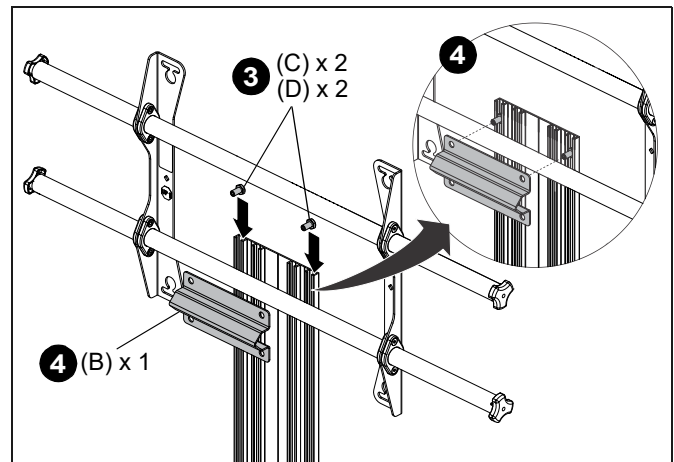

Figure 3
3. Slide two assembled M8 x 20mm screws (C) and M8 nuts (D) down into the outside channels of the upright extrusion (A) until they are positioned above the lower bar of the display mount. Tighten one of the screws (C) to hold the upright extrusion in place on the mount bar.
4. Place the tube clamp (B) over the lower bar of the display mount and the ends of the M8 x 20mm screws (C). (See Figure 3)